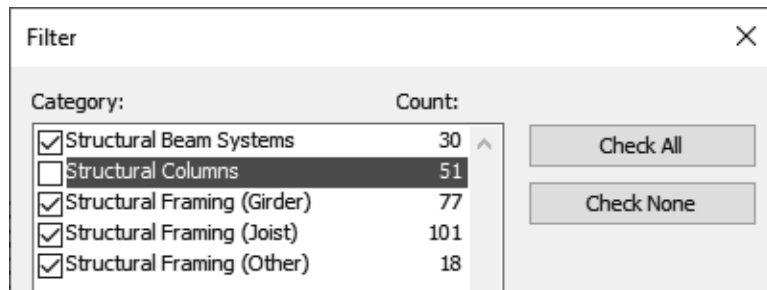

Figure 7–18
3. In the Filter dialog box, clear the **Structural Columns** category, as shown in Figure 7–18. If elements other than framing are displayed, clear those categories as well.